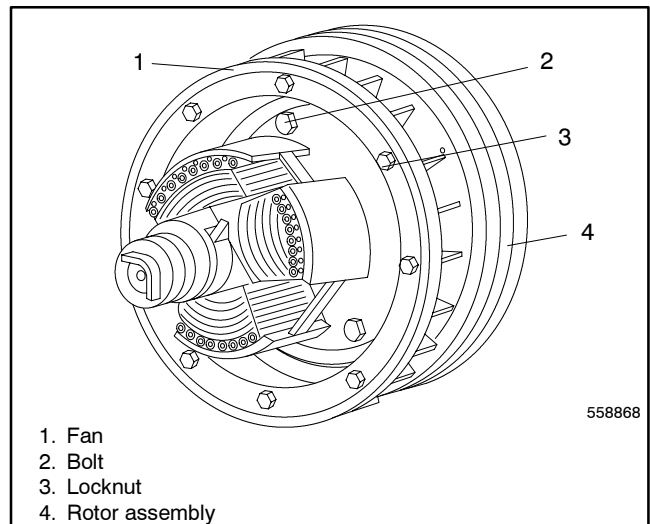

Figure 9-7 Disc/Rotor and Fan Assembly
22. Remove the four locknuts and remove the fan and fan spacer. See Figure 9-7.
23. Remove the six metric bolts to remove the drive disc/rotor assembly from the engine flywheel. See Figure 9-7.